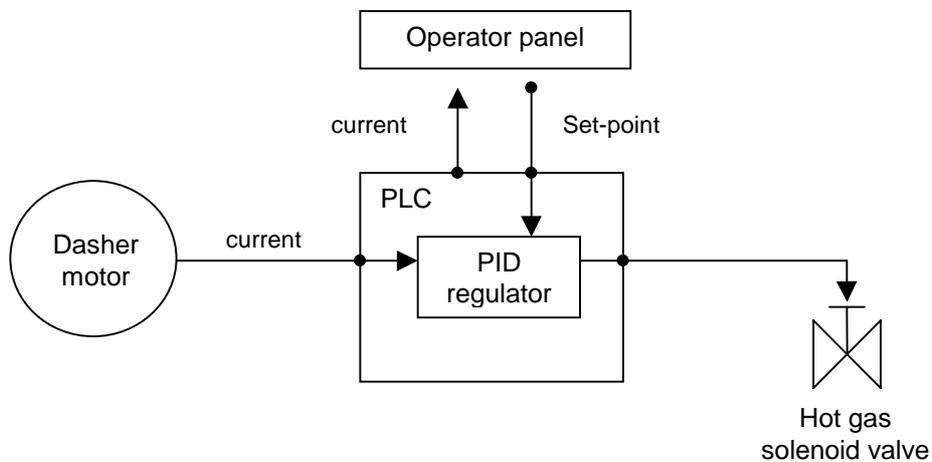

**Fig. 6-1 – Adjustments**
- Switch the machine on turning the main switch (Fig. 6-1 pos. 1) on the control panel.
- The OP display (Fig. 6-1 pos. 2) lights up.
- Check on the display that no alarm is present (in case an alarm related to a unit controlled by push button is on, the corresponding button blinks quickly). (To restart production in case of an active alarm, it's required to push the "Emergency Reset" pushbutton (Fig. 6-1 pos. 9).
- Command the filling up of the circuit with the mix using the CIP push button (Fig. 6-1 pos. 3).
- As soon as the product exit from the second pump is noted, push the CIP button again (Fig. 6-1 pos. 3) to switch it off.
- 1) Pumps (Fig. 6-1 pos. 4); during start-up, the inlet pump (mix) will reach the planned speed. The outlet pump (ice cream) will keep a very low speed until the pressure inside the cylinder reaches 1 bar. At that moment, the pressure adjusting system will take the control over the outlet pump to bring and keep the pressure at the planned value. During the beginning stage, and until the system reaches the right running, the outlet ice cream flow-rate will be small.
- 2) Cylinder (Fig. 6-1 pos. 5);
- 3) Compressor (Fig. 6-1 pos. 6);
- 4) Over-run Air (Fig. 6-1 pos. 7).
- a) Stop the air introduction into the ice cream by pushing the button (Fig. 6-1 pos.7).
- b) Stop the freezing compressor by pushing the proper button (Fig. 6-1 pos. 6).
- c) Stop the whipping shaft pushing the button (Fig. 6-1 pos. 5).
- d) Stop the pumps pushing the button (Fig. 6-1 pos. 4); this way, the inlet pump (mix) will immediately stop, whereas the outlet pump (ice cream), will go on working (the button pilot light is blinking) until the pressure inside the cylinder has lowered below 0.3 bar. Acting like this, the cylinder is not kept under pressure with pumps off.
- g) Start the whipping shaft up by pushing the button (Fig. 6-1 pos. 5).
- h) Start the freezing compressor up by pushing the button (Fig. 6-1 pos. 6).
- i) Start the pumps up by pushing the button (Fig. 6-1 pos. 4); during start-up procedure, the inlet pump (mix) will reach the planned speed. The outlet pump (ice cream) will keep a very low speed until the pressure inside the cylinder reaches 1 bar. At this point, the pressure adjusting system will take the control over the outlet pump to bring and keep the pressure at the planned value. During the first stage, and until the system reaches the right running, the outlet ice cream flow-rate will be small.
- j) Start the air installation up by pushing the button (Fig. 6-1 pos. 7).
- a) Stop the air introduction by pushing the button (Fig. 6-1 pos. 7).
- b) Stop the freezing compressor by pushing the button (Fig. 6-1 pos. 6).
- c) Stop the pumps by pushing the button (Fig. 6-1 pos. 4).
- d) Stop the whipping shaft by pushing the button (Fig. 6-1 pos. 5) waiting for the remaining ice cream to get out of the cylinder
- B) Start the washing up operating the CIP pumps of the lab washing installation (not included in the GIF 600 supply) and operating the freezer CIP cycle with the button (Fig. 6-1 pos. 3).
**WARNING: Do not carry out CIP washing up without activating the CIP cycle with push button (Fig. 6-1 pos. 3): the washing flow would be inadequate.**
- C1) Operate the whipping shaft through the push button (Fig. 6-1 pos. 5).
- D1) Operate the pumps through the push button (Fig. 6-1 pos. 4).
- E1) Let the hot water circulate until complete removal of the coarsest sediments. Once this condition has been reached (the sediments removal span must last as short as possible), stop the whipping shaft and the pump pushing the buttons (Fig. 6-1 pos. 5,6).
- F1) Turn the machine off rotating the general switch (Fig. 6-1 pos. 1).
The emergency stop is controlled by pushing the red mushroom-shaped button (Fig. 6-1 pos. 8) placed on the OP. The machine immediately stops: use this command only in case of real sudden needs of machine stops, when there is the risk of injuring people or machines. Do not use as machine stop at the end of the production.
It is possible to visualize on the OP display (Fig. 6-1 pos. 2) values needed to adjust correctly: